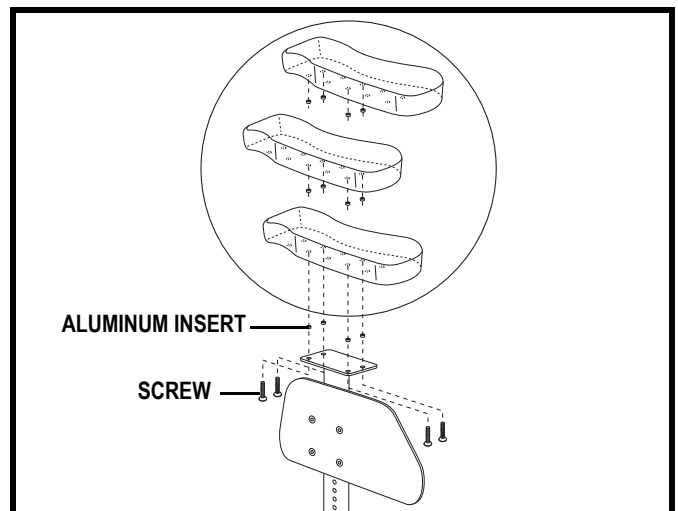

Figure 17. Armrest Pad Depth Adjustment
You can also adjust the depth of the armrest pads. See **figure 17**.
1. Remove the four screws and their four aluminum inserts from the bottom of the armrest pad. See **figure 17**.